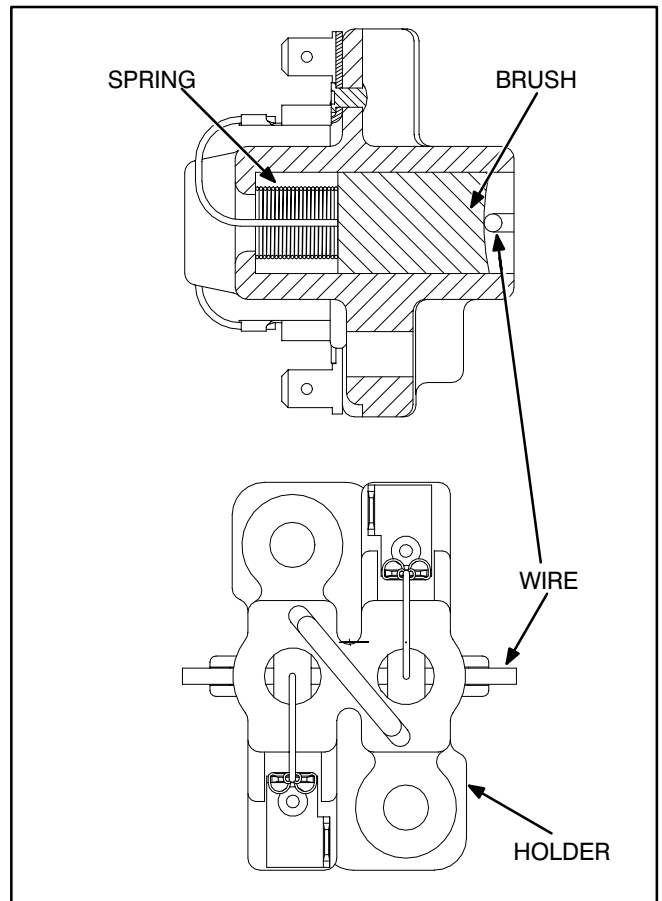

FIGURE 4-7. BRUSH REPLACEMENT
4. Install the new brushes and springs in the holder and keep them in place during assembly by inserting a piece of wire through the holder, as shown in Figure 4-7.
7. Pull each brush away from the commutator rings and insert a piece of stiff wire into the small hole in the brush holder. See Figure 4-7.